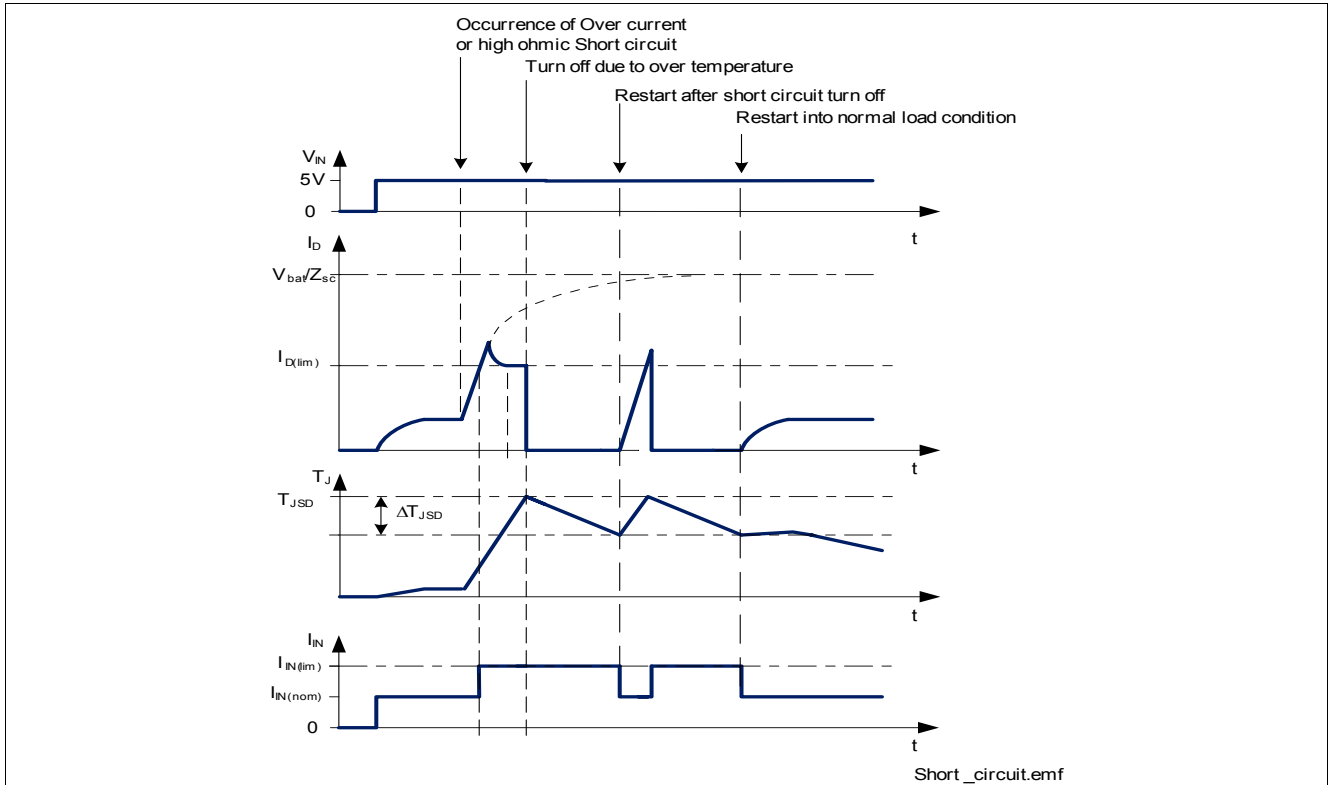

Figure 16 Short circuit protection via current limitation and over temperature switch off
**Figure 16** shows the inductance / current combination the BTS3046SDR can handle.
**Figure 16** shows this behavior.